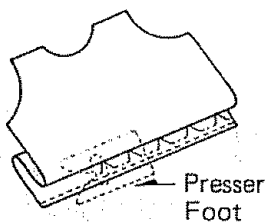

Fig. 3
3. Place garment under presser foot in such a manner that straight stitches will be sewn on extended edge. The zigzag stitch should just catch the fold of the garment. (Fig. 3)
Foot can also be used to make cording for slipcovers etc. Cover a cord with a strip of bias fabric and sew as shown in Fig. 3.